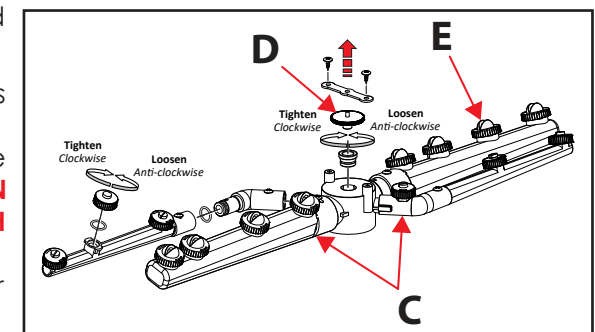

Fig.3
- Remove the fixing screw (D) to remove the wash arms. Check that the nozzles (E) on the wash arms (C) are not blocked. The nozzles and wash arms can be removed for cleaning. See Fig.3
- Reassemble the parts by attaching the wash arms firmly in place on the assembly (the wash arms (C) must be installed with the correct axial angle). Take care when attaching the nozzles (E) onto their correct positions on the wash arms. Reinstall the wash arm assembly using the fixing screw (D).